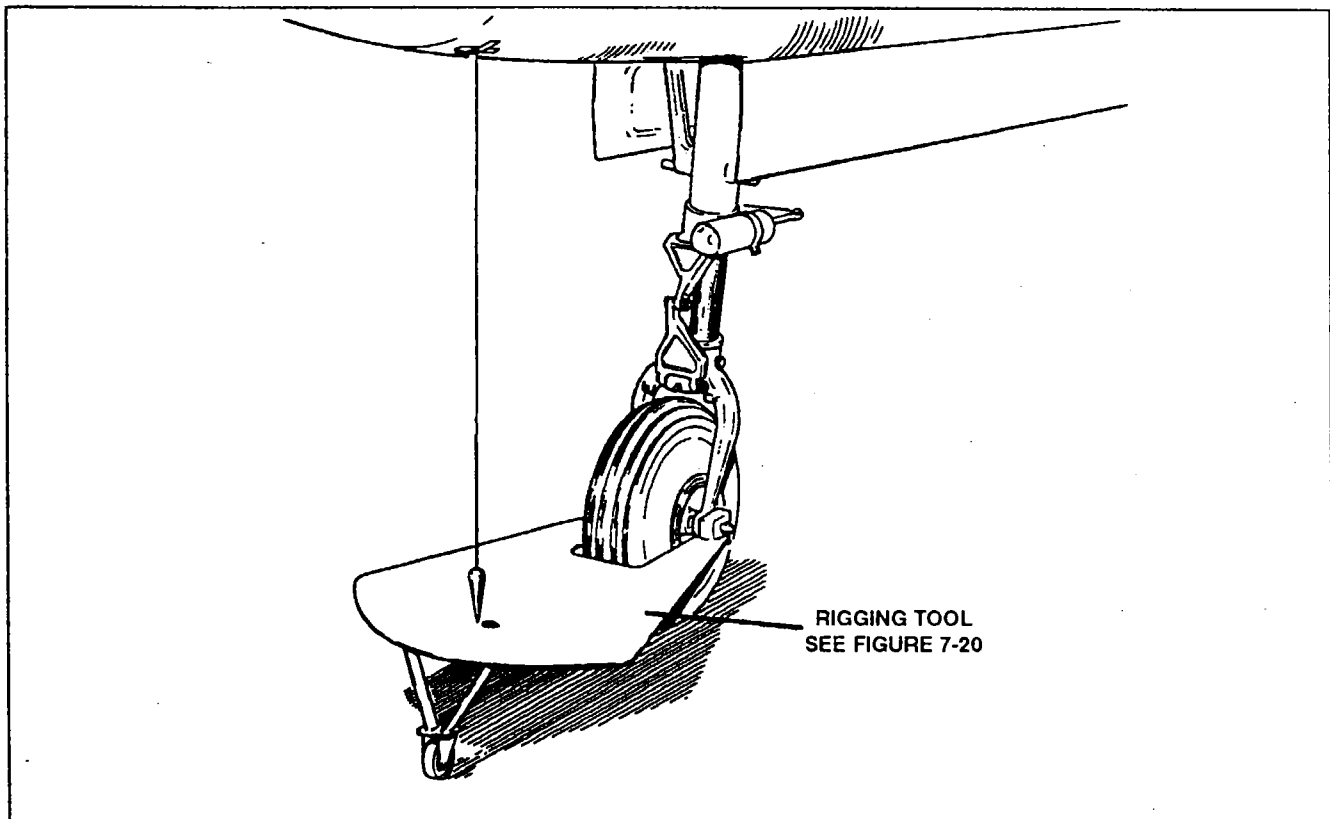

Figure 7-5 Aligning Nose Gear
3. Attach the (fabricated) nose wheel jig to the front of the nose wheel at the axle and extend and attach a plumb bob from a point that is approximately 20 inches forward along the bottom-center row of rivets as measured from the wheel well opening. (Refer to Figure 7-5.)